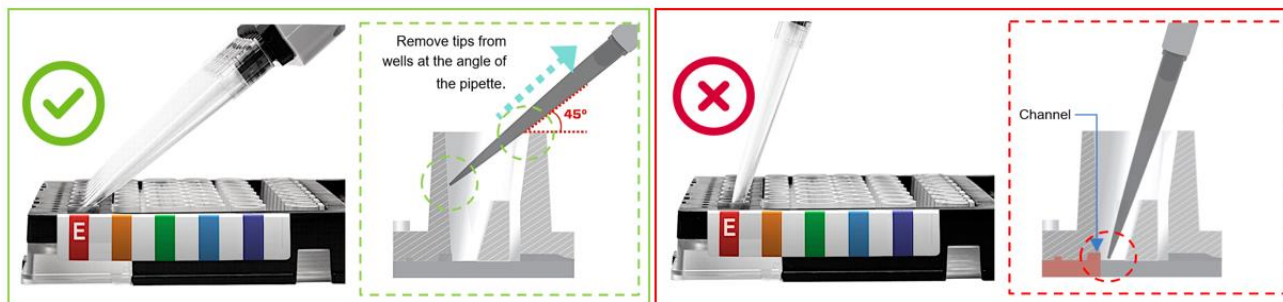
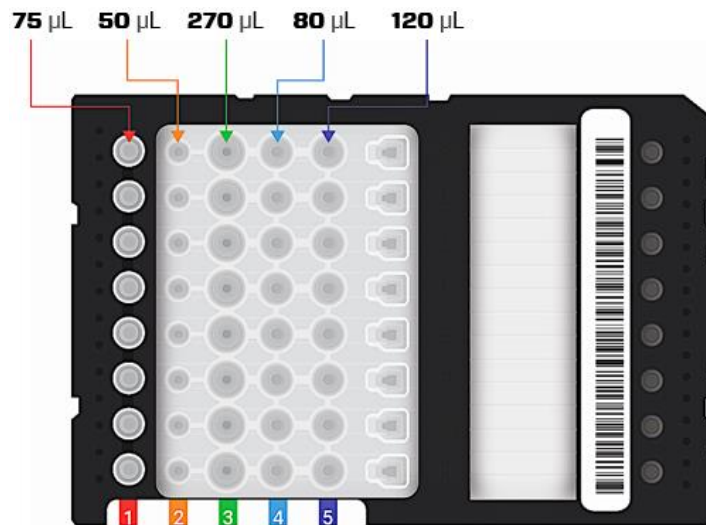

Figure 4. Proper (left) and improper (right) pipetting techniques for fluidic chip buffer wells.
Figure 5. G2 FFPE To DNA purification buffer dispense volumes.
5. Using a P200 multichannel pipette and the proper pipetting technique shown in **Figure 4**, add the appropriate volume of each purification buffer as shown on the screen (also see **Figure 5**), working left to right (1 to 5), to the fluidic chip.